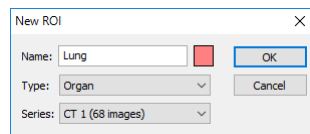

Figure 232 – New ROI dialog
2. The **New ROI** dialog for defining the main properties of the new ROI is then displayed (see Figure 232).